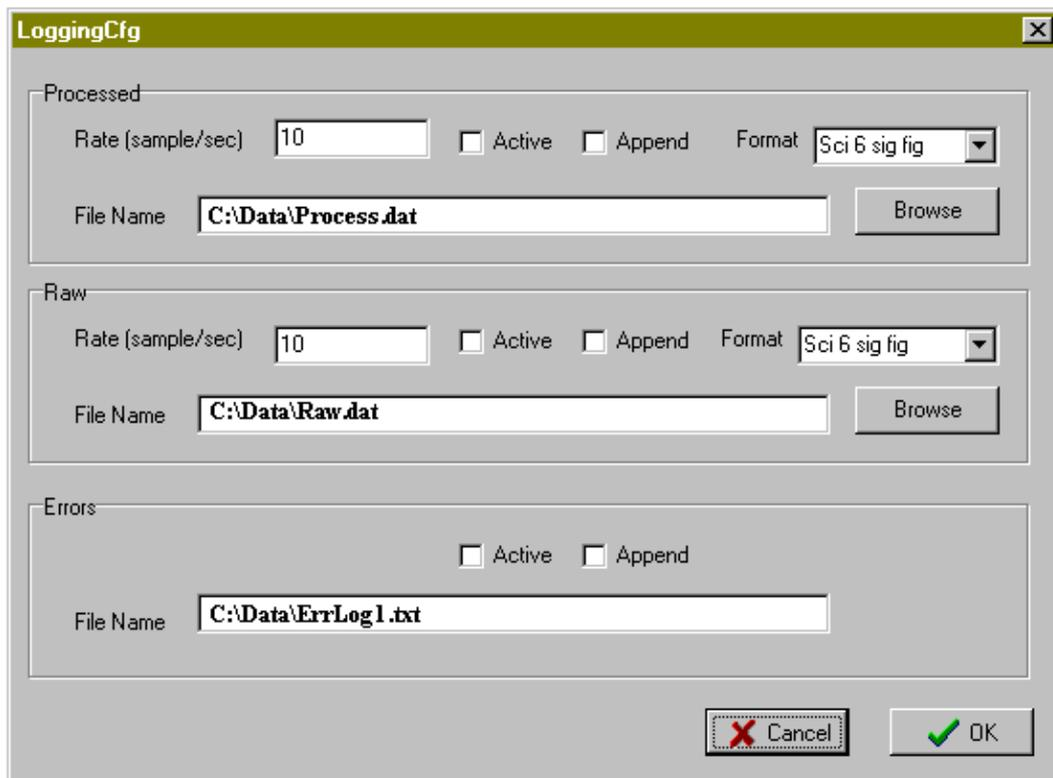

Figure15 PodMng Software - LoggingCfg Window
2. Move the mouse pointer over the Pod chosen for channel configuration. Select by pressing the left hand mouse button or the + symbol; which appears adjacent to the Pod for which channel details are going to be adjusted, or directly the channel which is going to be configured. Figure 15 shows the **Edit Channel Window**